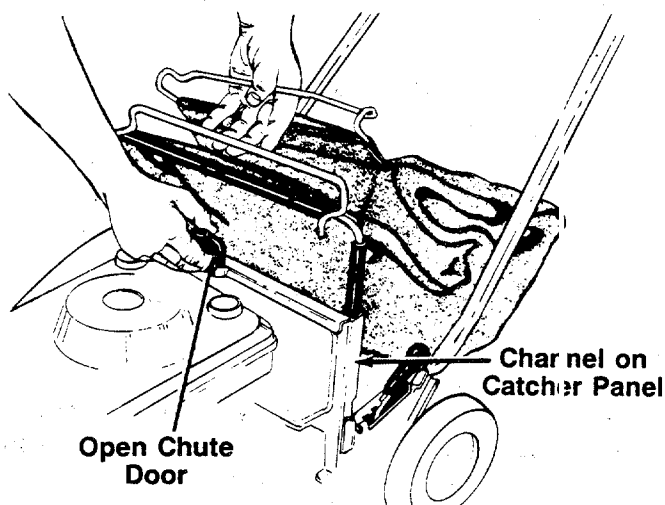

FIGURE 11.
1. Hold the chute door on the catcher panel open as shown in figure 11.